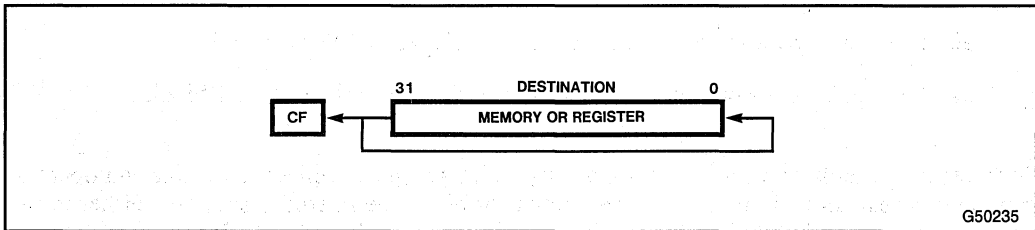

Figure 3-11. ROL Instruction
**ROL (Rotate Left)** rotates the byte, word, or doubleword destination operand left by one bit position or by the number of bits specified in the count operand (an immediate value or a value contained in the CL register). For each bit position of the rotation, the bit that exits from the left of the operand returns at the right. See Figure 3-11.